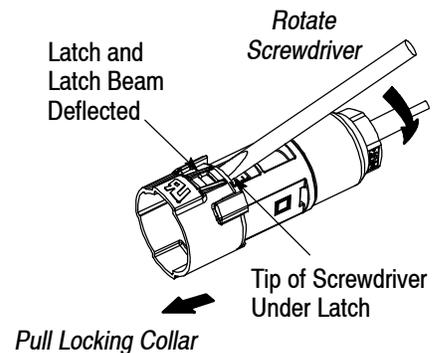

Figure 3
1. From the female cable coupler side, insert the tip of a flat-blade screwdriver into the latch release window of the locking collar. See Figure 3, Detail A.
2. Rotate the screwdriver, then slightly push and pry the latch until the latch lifts over the first pocket of the male cable coupler and into the second pocket as shown in Figure 3, Detail B.
3. To unmate the cable couplers, gain access to the finger grips of the female cable coupler by pushing the locking collar axially toward the male cable coupler until the latch is against the end of the second pocket. See Figure 3, Detail B. Depress the finger grips and pull the female cable coupler away from the male cable coupler. See Figure 3, Detail C.
4. Insert the tip of a flat-blade screwdriver under the latch of the locking collar, and rotate the screwdriver so that the latch and latch beam deflects away from the male cable coupler. Then pull the locking collar off of the male cable coupler. See Figure 3, Detail D.